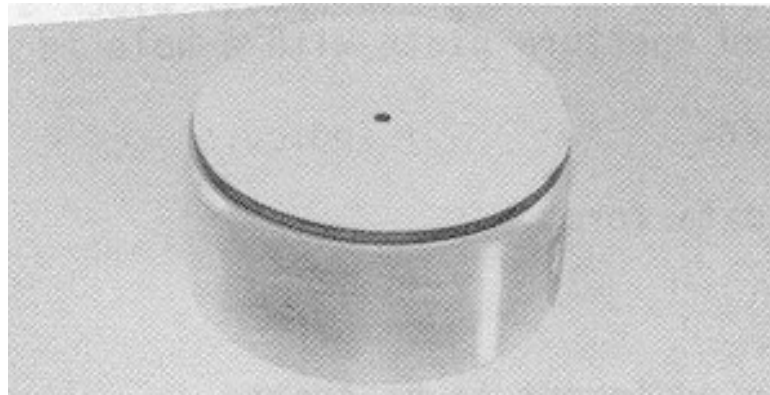

Figure 6-6. Lead aperture plate and 5 cm. Plexiglas spacer positioned on the table.
- (1) Position the lead aperture plate on top of the 5 cm Plexiglas spacer (see figure 6-6).